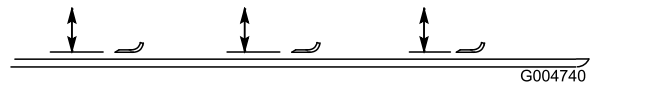

Figure 87
- Rotate the blade until the ends face forward and backward and measure from the inside of the mower deck to the cutting edge at the front of the blade (Figure 87).